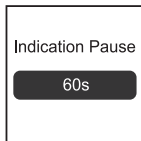

Fig.4-6
4.1.3 Tap "Indication Pause". The screen will display as in **Fig.4-6**, tap the figure to set the pause time between "60s", "120s" and "180s".